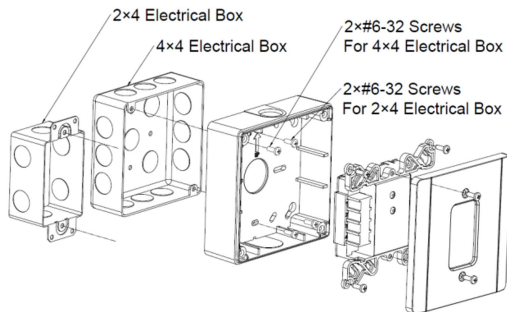

Figure 1. Installation Diagram
1. Mount the FW800 / FW801 base onto a 2X4 or 4x4 electrical box using the screws provided, as illustrated in Figure 1.